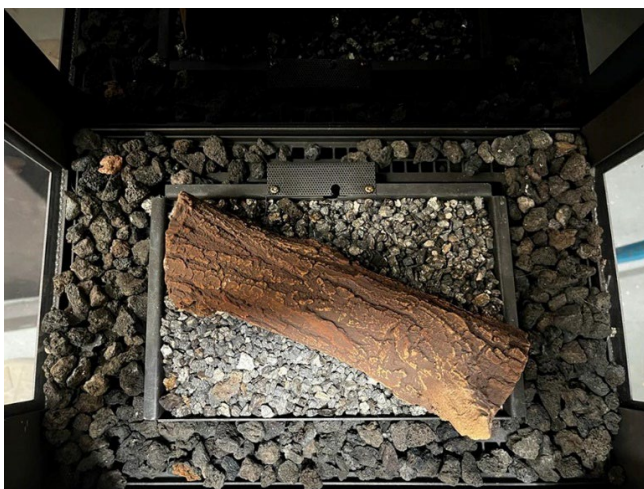

Fig.24b
STEP 3: Place Log A onto the vermiculite bed as shown in Fig.24b